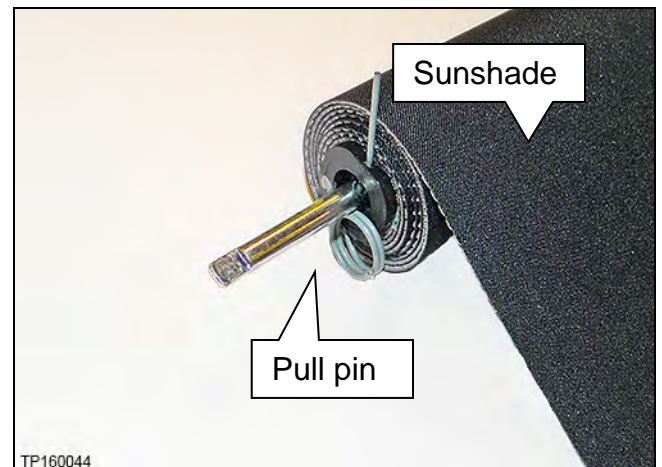

Figure 71
- f. Install the pull pin (Figure 71) into the sunshade (a paper clip will also work).